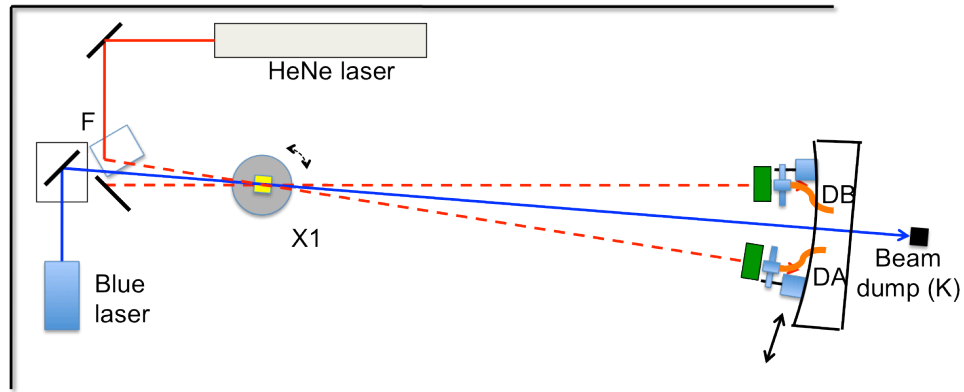

Figure 2. Schematic of the alignment of the collimators using a 1-m radius-of-curvature plate.
- c. **If both detectors show a sharp peak with the tilt angle of the crystal but they do not peak at the same angle**, then in this case the two collimators/detectors are not at the same angle relative to the pump beam. Fix: Tilt the crystal until ch1 is a maximum. Then displace collimator 2 along a curved path centered about the crystal until it peaks. Then repeat the tilting until you see that both peak at the same tilt angle. We make a plate that has a 1-m radius of curvature and place the collimator mount against it, as shown in Fig. 2. When we slide the collimator mount with the plate as a guide, the collimator changes position while still looking at the crystal. If you have a straight-plate guide that can also work, but if you go too far the collimator will get out of alignment.